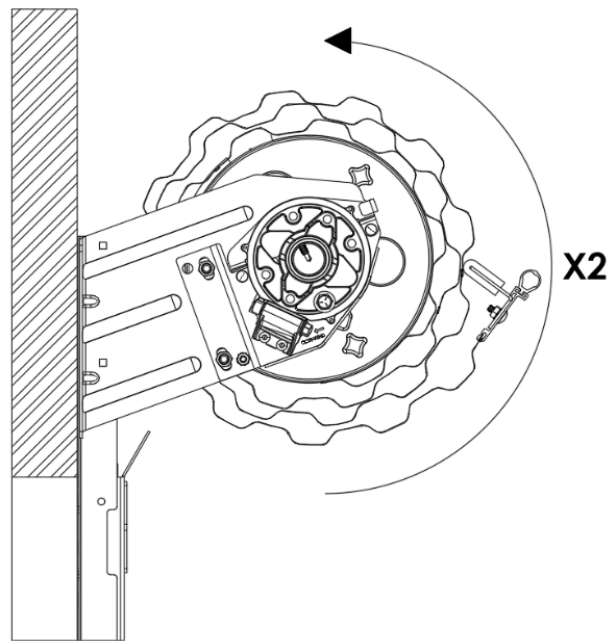

figure 6: Setting initial spring tension
- ✦ Before applying initial spring tension, assure the spring hook is securely attached to the spring plate. See Figure 6 for visual reference.
- ✦ Rotate door two (2) revolutions in the direction that would send the bottom bar down through the guides.